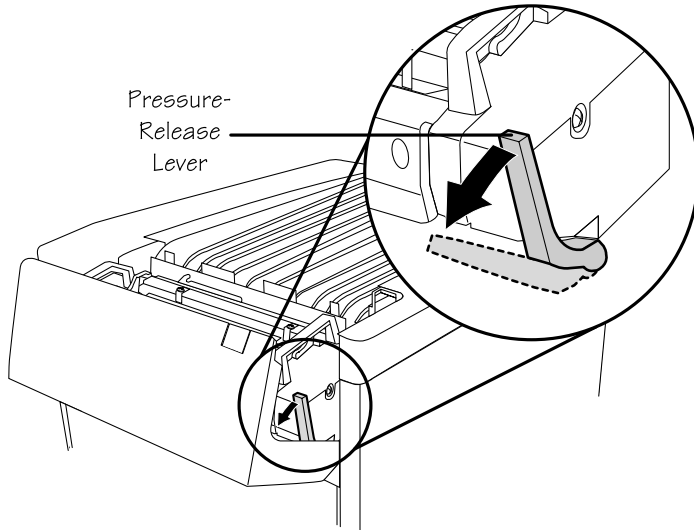

Fig. 2.15 *Open the Lever (rear view)*
3. Open the pressure-release lever on the end of the fuser unit (fig. 2.15).